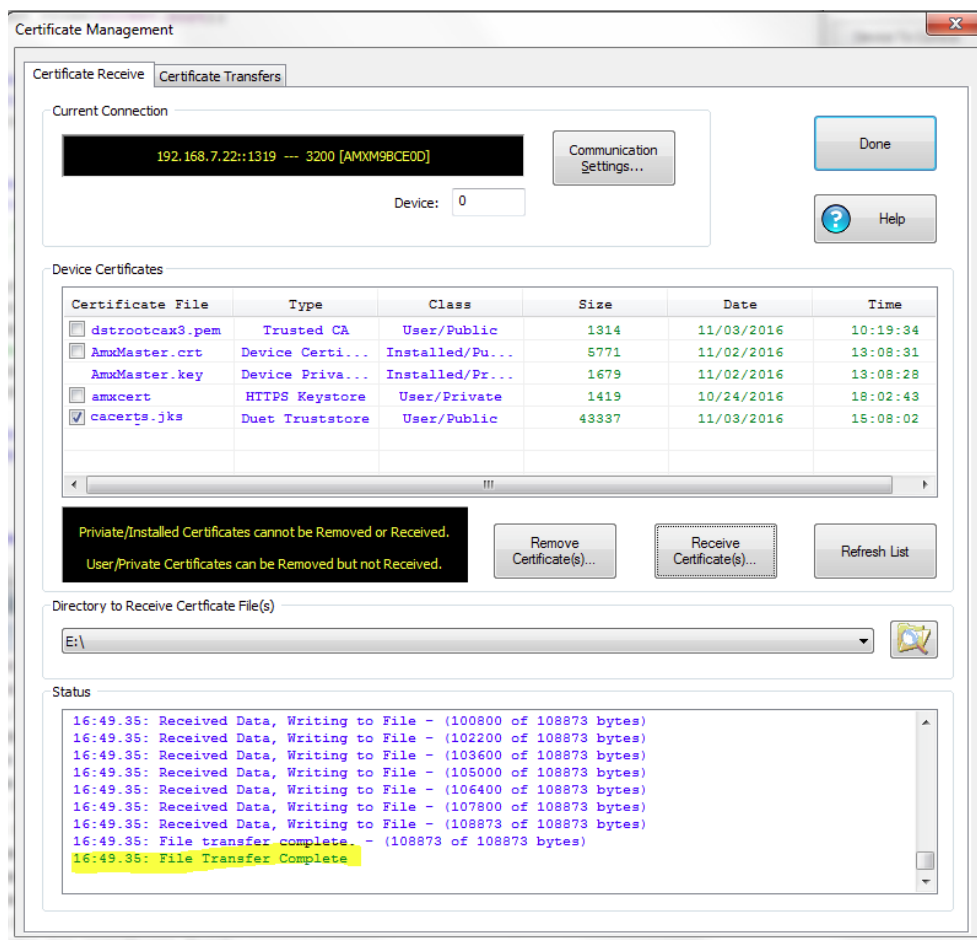

FIG. 475 Certificate Management - Receive tab - File Transfer Complete
3. The status field should update to show when the file transfer is complete (FIG. 475):